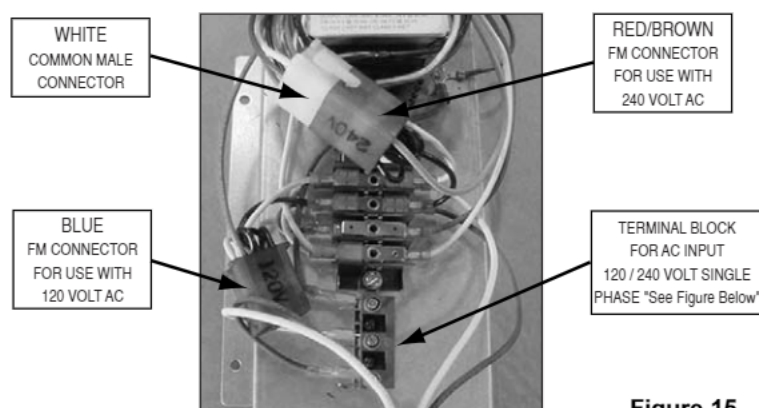

Figure 15.
- The MiniMax NT Series heater is prewired for 240 volt AC connection using the "RED/BROWN" female connector and the "WHITE" common male connector; see below, Figure 15. If you require the heater to be connected to 120 volts AC, remove the "RED/BROWN" female connector from the "WHITE" common connector; now locate the "BLUE" female connector and plug it into the "WHITE" common connector. When connecting the home wiring to the "Line Terminal Block" inside the junction box, follow the polarity as shown below. Connecting to 120 VAC, make sure that you connect the positive wire to the positive terminal (L), the neutral wire is connected to the neutral terminal (N) and the ground is connected to the ground terminal (GND); see below, Figure 16.
You might need to open the jacket (upper panel) for servicing the Line Terminal Block as shown in Figures 15 & 16.